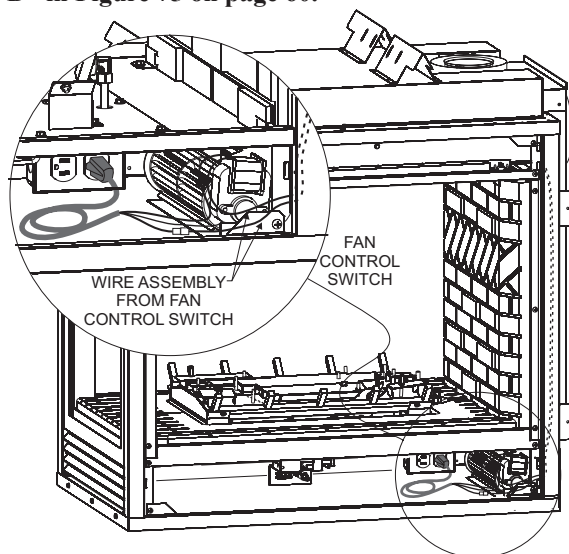
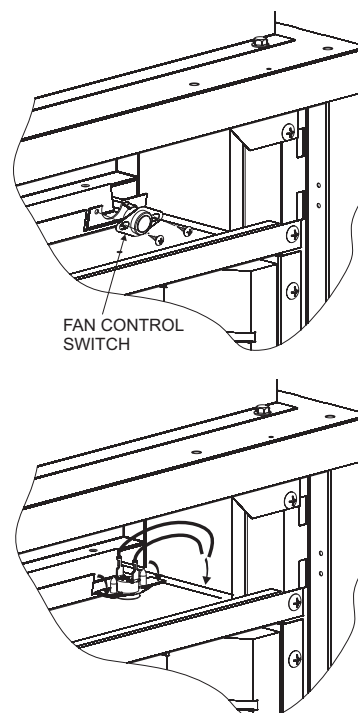

Figure 71
Figure 72
To install the blower kit or access the junction box, remove lower louver as illustrated by figure 71.
4. Insert blower assembly into interior, bottom of fireplace. Note: On peninsula models, the blower must be installed at the end which has the brick panel installed. Position blower assembly so that you align the notch on back of blower assembly with the center screw on side/end panel, then push the blower assembly against fireplace outer panel. The blower wheel must be centered with the side/end wall of the fireplace. The magnets on the back and bottom of blower assembly will sufficiently hold blower assembly in place. See **Figure 71**.
5. Once the blower assembly is in position, remove the upper louver as shown and locate the switch tab (end of support channel) on top of the firebox. Install the fan control switch by first removing the two pre-installed screws in the tab, then secure the fan control switch to the tab. See **Figure 72**. Once the fan control has been secured, bend the tab forward so that the face of the fan control is pushed down so it contacts the firebox top.
6. Next, find the fan control wire assembly. Feed the wires over the top of the firebox. The fan control wires will slide down between the firebox and outer wrap near the blower assembly. See **Figure 71**. Attach the two 3/16" wire terminals to the fan control switch as shown in **Figure 72**. Attach the wire terminals at the blower as shown by letters "A" and "B" in **Figure 75** on page 60.